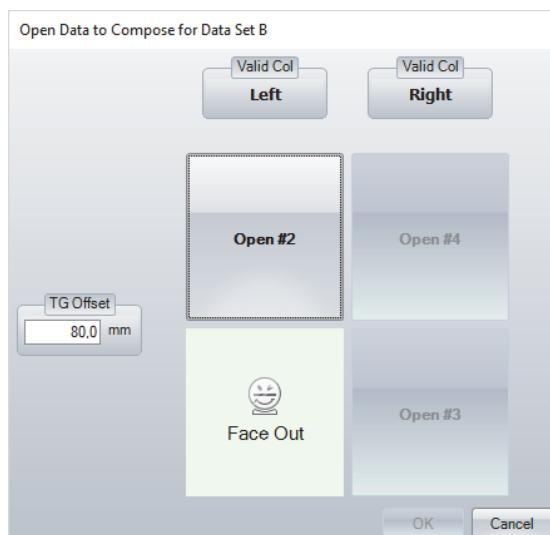

Figure 6: Loading of “Face Out/ Face In” measurements in VeriSoft
- ▶ Select *File → Data Set A/B → Compose*. The *Open Data to Compose dialog* will appear (see Fig. 6)